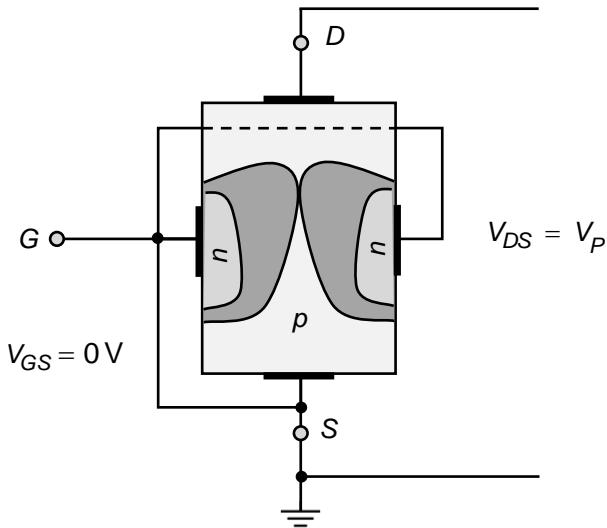

Fig. 3.22: Pinch-off in *p*-channel JFET; $V_{DS} = V_P$ and $V_{GS} = 0$ V.
7. Fig. 3.22 shows the pinch-off in a *p*-channel JFET.
Just as in an *n*-channel JFET, when V_{DS} is increased in a *p*-channel JFET, the reverse bias across the gate-source *p*-*n* junction increases and the widths of the depletion layers increase resulting in a reduced channel width. This decreases the path of conduction for holes, causing the resistance of the channel to increase. Eventually the drain current I_D saturates. After that it does not increase any further with an increase in V_{DS} . So when V_{DS} is increased to a value V_P such that the two depletion layers “touch” each other as shown in Fig. 3.22, pinch-off occurs in a *p*-channel JFET.